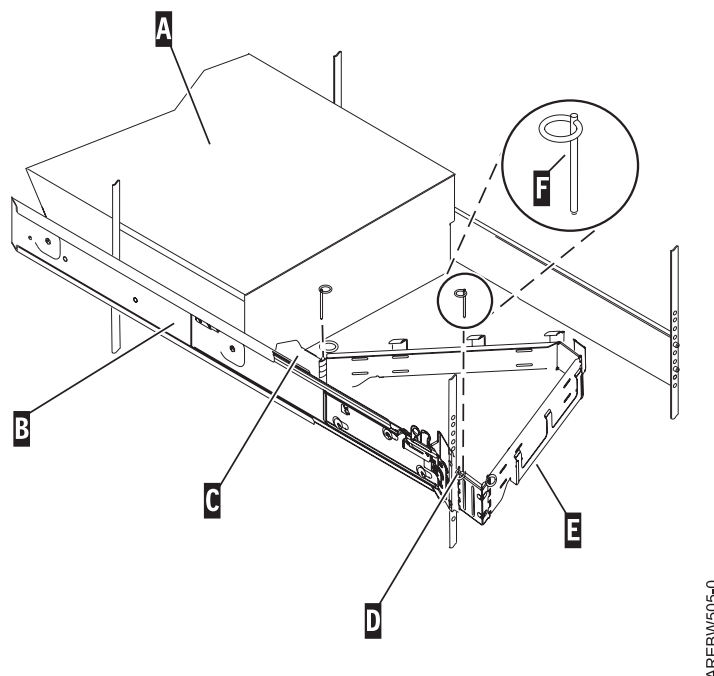

Figure 31. Attaching the cable-management arm
3. Use the pin (F) to pin the cable-management arm (E) to the rack frame (D) as shown in Figure 31 on page 37.
4. Use the second pin (F) to pin the other end of the cable-management arm to the flange (C) that is attached to the sliding portion of the left system rail assembly (B). See Figure 31.